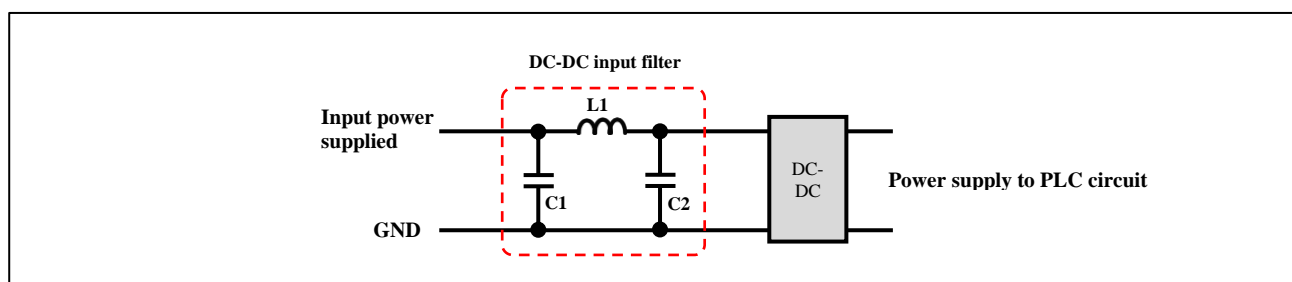

Figure 4-1 Example of input filter for DC-DC power supply circuit
- In order to suppress the influence on other power supply circuits and PLC circuits, it is recommended to insert an LC filter at the input section of the DC-DC power supply circuit in order to remove noise contained in the input power supply and reduce the effects of switching noise generated in the DC-DC power supply circuit. Figure 4-1 shows a circuit example of an input filter for a DC-DC power supply circuit, and Table 4-1 shows an example of its circuit constants.